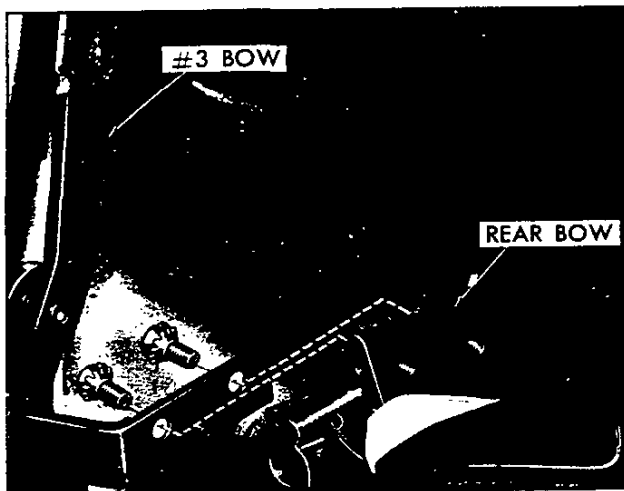

Fig. 71-Rear Bow Retaining Screws
8. Disconnect rear bow from top frame assembly. Two screws retain at each side Figure 71.